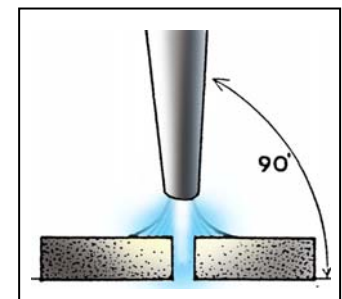

Figure 2
10. Hold this position until a weld pool forms. It should form equally over both pieces of metal. Refer to Figure 2.